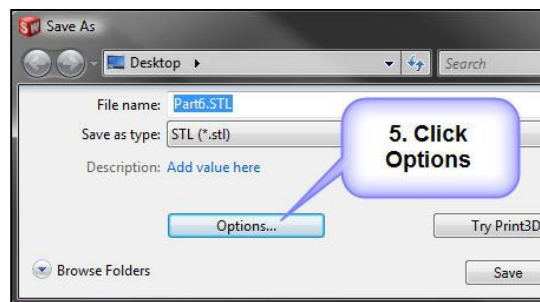

Figure 2
5. Figure 2: Click **Options** at the bottom of the **Save As** window